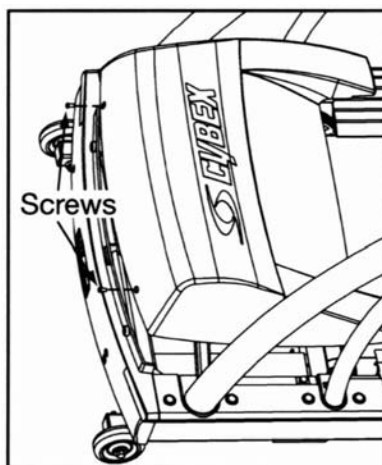

Figure 1
- A. Turn the main power switch in the front panel to the off (0) position. (It is labeled I/O).
- B. Lift the cover from the front and remove it from the treadmill. Set the cover and screws aside. See Figure 1.